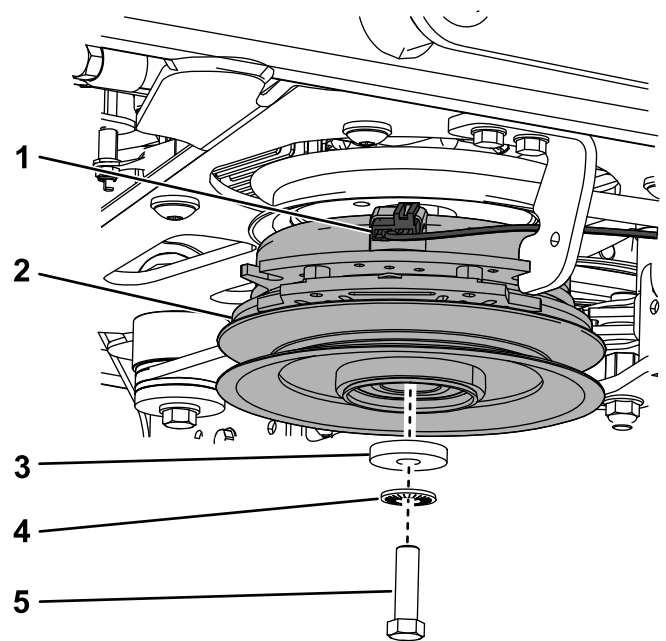

Figure 95
- A. Unplug the wire harness from the clutch (Figure 95).
- B. Remove the bolt, washer, spring washer, and clutch (Figure 95).